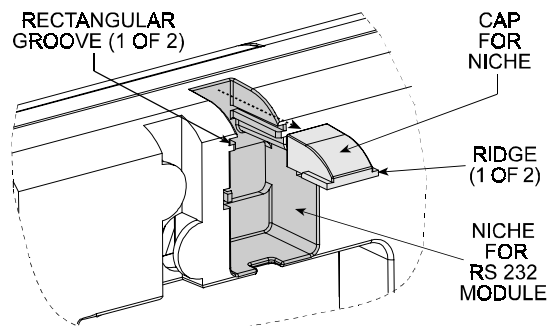

Figure 25. Removing the Cap from the RS232 Niche
- Remove the factory installed plastic cap by sliding it out along the grooves as shown in Figure 25.